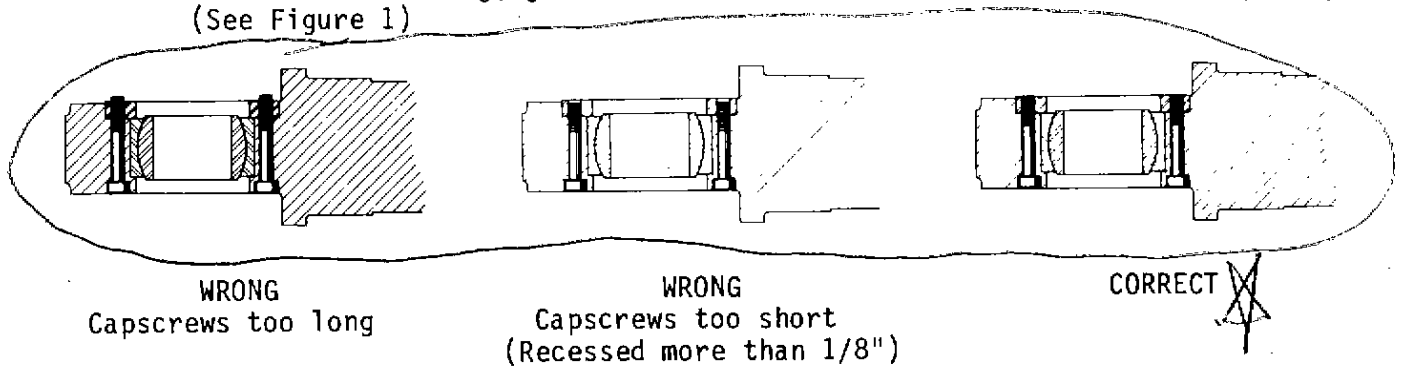

FIGURE 1
- a. Inspect the six capscrews in each spindle for correct length. If the capscrews are too long, grind them flush with the surface of the clamp ring. (See Figure 1)